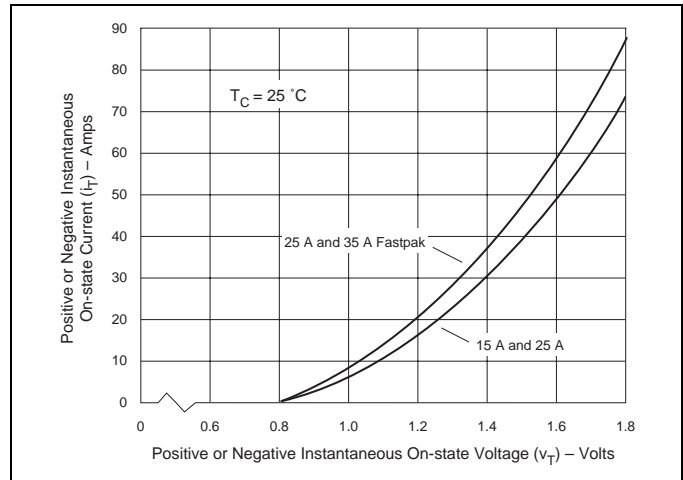
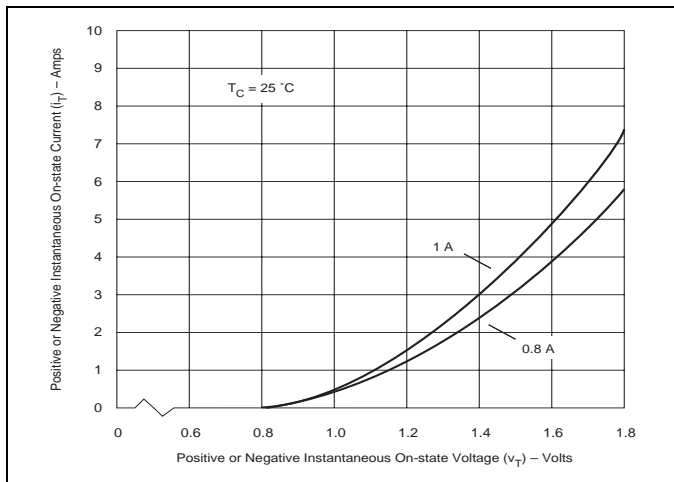

Figure E2.10 On-state Current versus On-state Voltage (Typical) (15 A and 25 A)
Figure E2.8 On-state Current versus On-state Voltage (Typical) (0.8 A and 1 A)
- See Figure E2.8 through Figure E2.10 for  $i_T$  versus  $v_T$ .